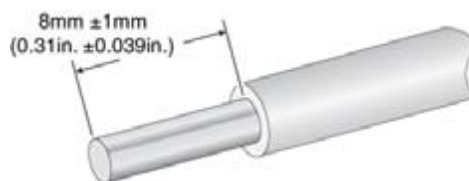

Figure 42. Stripped Wire
3. With a 14-gauge wire-stripping tool, strip the three wires in the tray cable coming from the DC input power source to $8\text{mm} \pm 1\text{mm}$ ($0.31\text{ in.} \pm 0.039\text{ in.}$), as shown in Figure 42 on page 98.